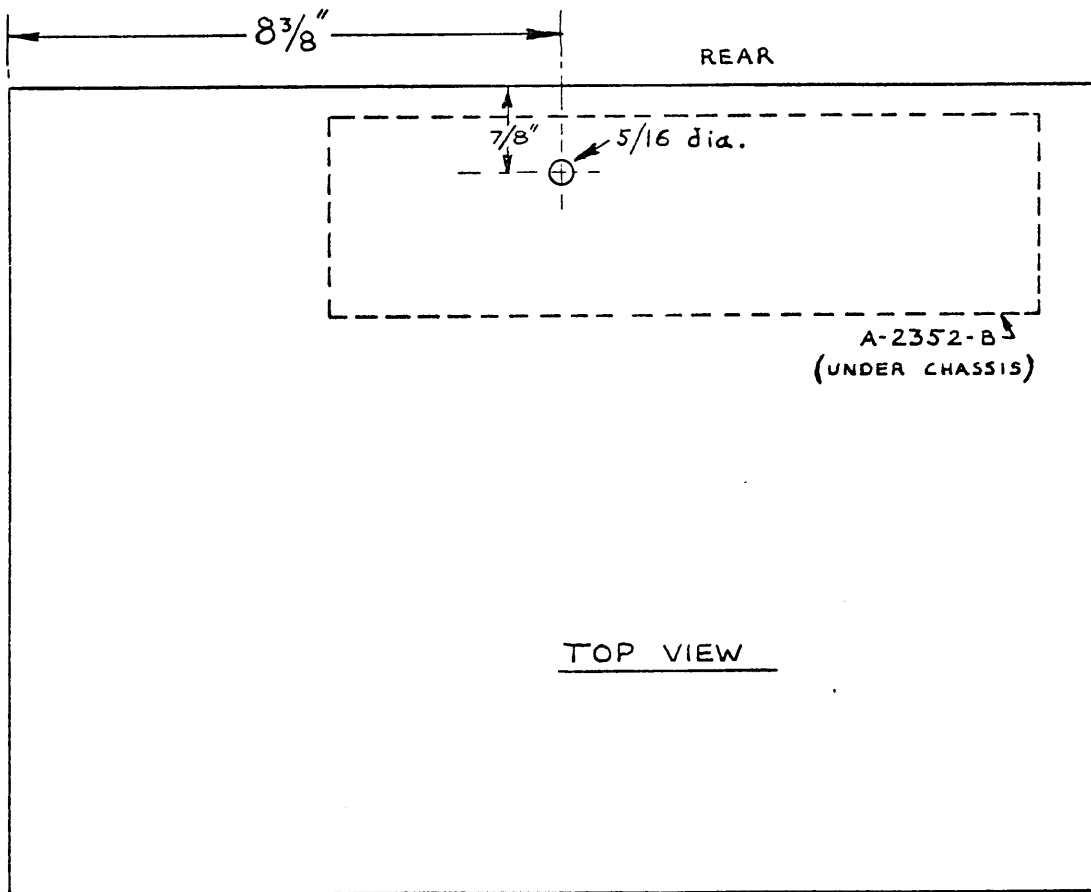
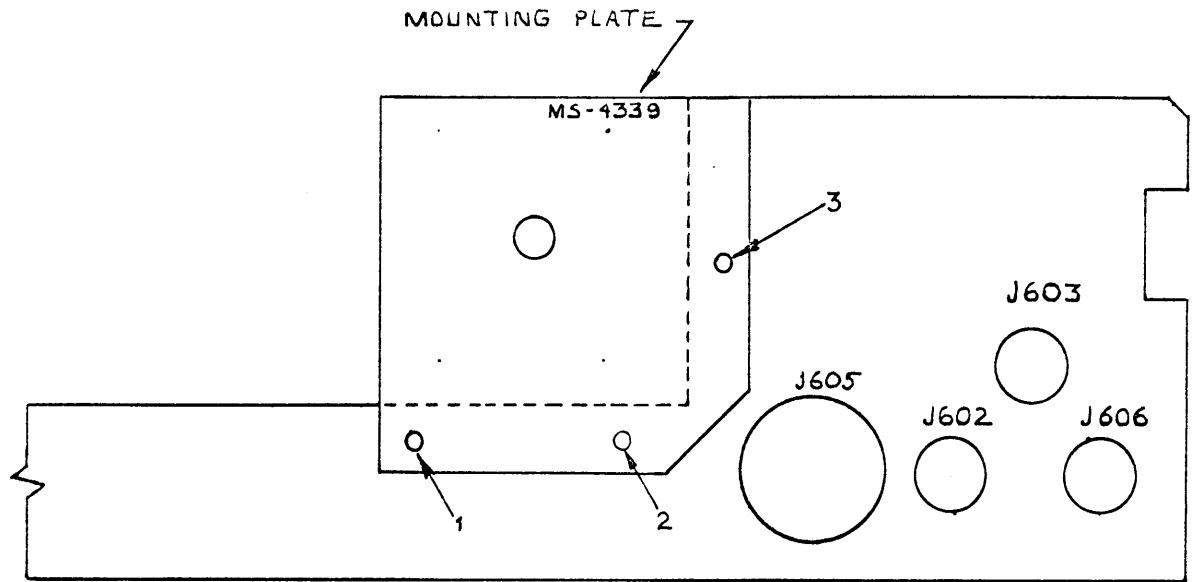
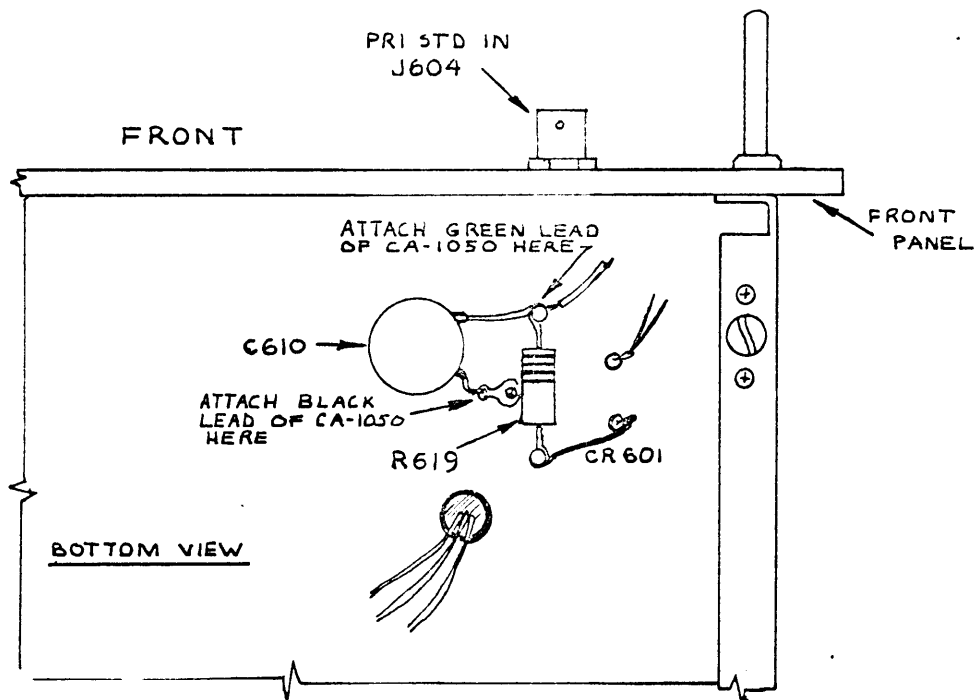

Figure 1. CSS, Top View
Figure 2. CSS, Rear View
Figure 3. CSS, Bottom View
8. Use electric drill (item 6, table 2) and 5/16" drill bit (item 6, table 1) to drill 5/16" hole in chassis as shown in figure 1.
9. Press grommet (item 4, table 1) into 5/16" hole drilled in step 8.
10. Remove screws from positions labelled 1, 2, and 3 on figure 2.
11. Affix mounting plate (item 3, table 1) in position shown on figure 2. Use original screws in positions labelled 1 and 2; use screw (item 11, table 1) in position labelled 3 on figure 2.
12. Press grommet (item 4, table 1) into center hole of mounting plate installed in step 12.
13. Refer to figure 3 for steps 13 and 14. Solder one end of green wire of CA-1050 (item 5, table 1) to standoff insulator at junction of R619 and C610.
17. Solder free end of CA-1050 to AX-546 (item 2, table 1) as follows:
18. NOTE: When performing step 18, position AX-546 so that its BNC coaxial connectors lie in a horizontal plane nearest the bottom rear of the CSS. Use screws and lockwashers (items 8 and 9, table 1). Attach AX-546 to mounting plate (item 3, table 1)